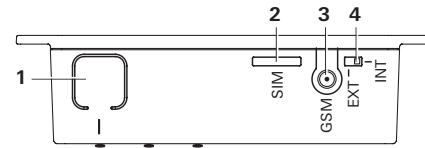

Figure 2 – Rear view
- Press the button (Figure 2 – 1) for approximately 1 second.